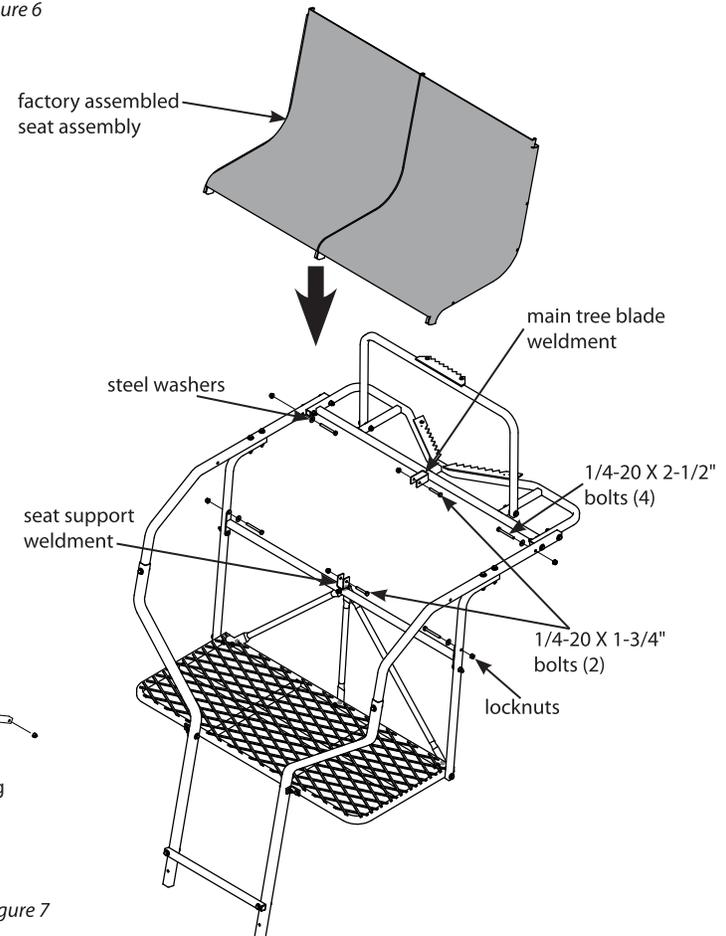

Figure 7
10. a. Attach the factory assembled seat assembly (14358) to the assembled treestand frame. Insert the center seat rail of seat assembly into the welded on channels found on seat support weldment and main tree blade weldment and secure together using (2) provided 1/4-20 x 1-3/4" bolts and locknuts. **SEE FIGURE 7.**
- b. Attach the outer seat rails of seat assembly to the armrest rails and L-support tubes using (4) provided 1/4-20 x 2-1/2" bolts, (4) locknuts and (2) steel washers. **SEE FIGURE 7.** It is important to have the bolt head on the seat rail side and the locknut on the other side for ease of assembly.